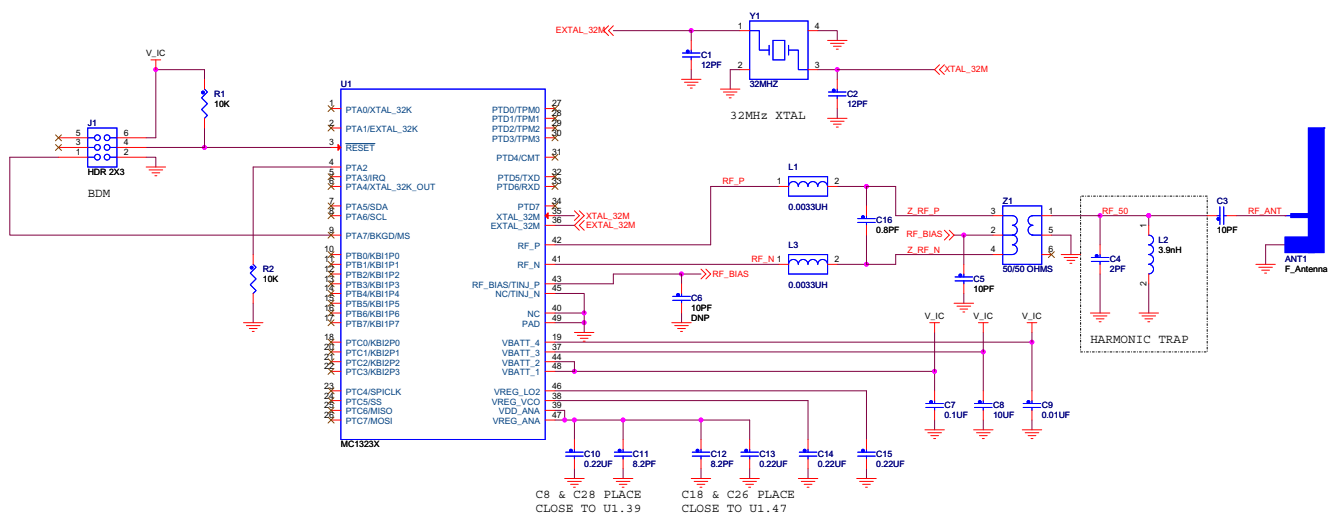

Figure 10. MC13233x Basic Applications Circuit
Figure 10 illustrates a basic applications circuit based on the 123x-MRB development board. Features of the circuit include:
- RF circuitry at 2.4 GHz is very dependent on board layout and component usage. Figure 10 shows a typical RF configuration, however component value and use can vary based on customer application.